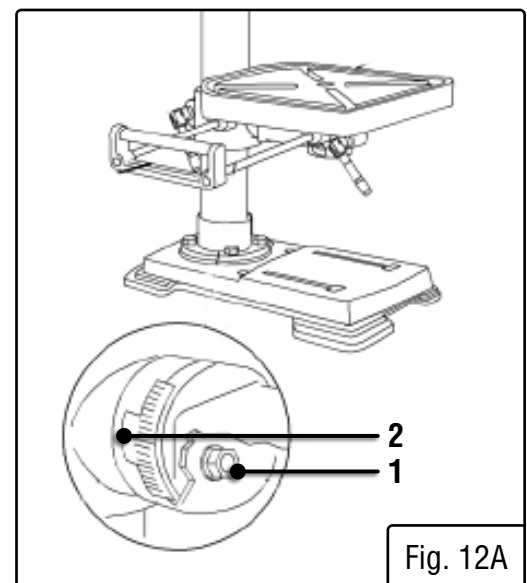

Fig. 12A
TILT THE TABLE (FIG. 12A)
1. Loosen the bevel lock bolt (Fig. 12A - 1) by turning it counterclockwise with an adjustable wrench (not included).
2. Tilt the table to the desired angle, using the bevel scale (Fig. 12A - 2) as a basic guide.
ADJUST TABLE TO BE HORIZONTAL (FIG. 12A)
1. Loosen the bevel lock bolt (Fig. 12A - 1).
2. Realign the table to the 0° setting on the bevel scale (Fig. 12A - 2).